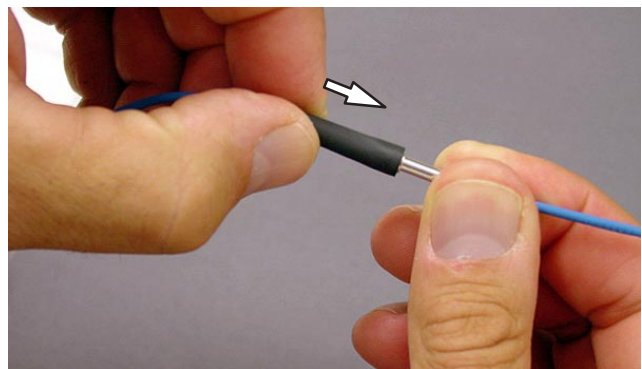

Figure 90
16. Slide the boots onto the splice until they bottom on the shoulder. See Figure 90.